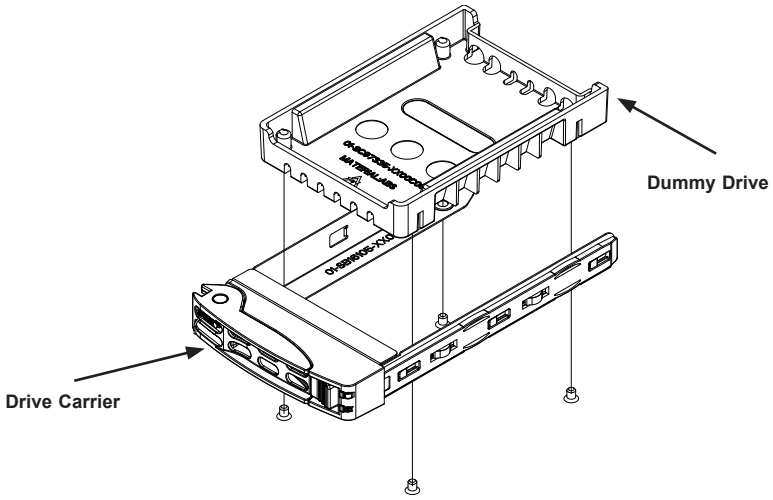

Figure 6-7. Removing a Dummy Drive from Carrier
3. Remove the dummy drive from the carrier (Figure 6-7).